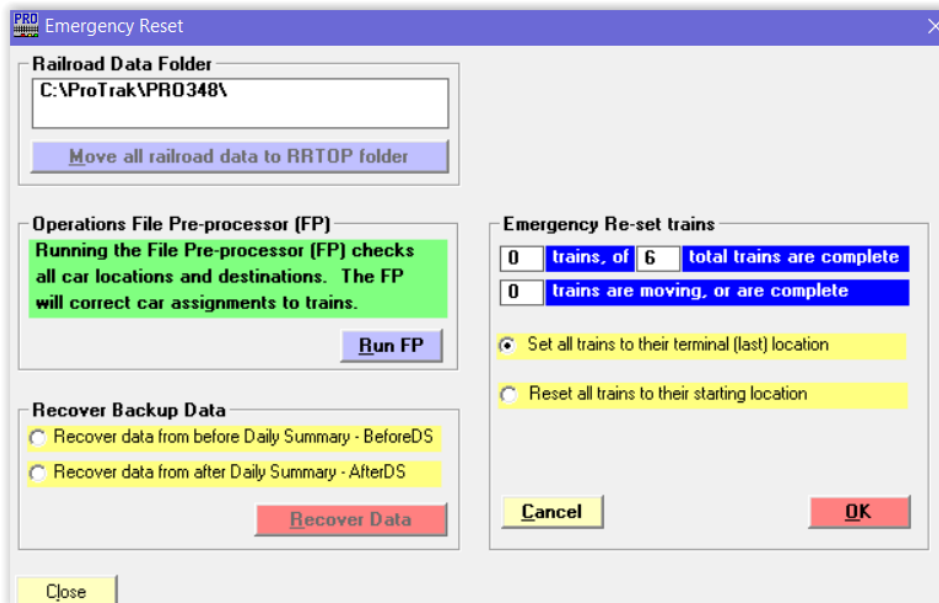

Figure 13-23a
Add the following sentence, steps 2a to 2d and Figure 13-23a to the existing step 2
- b. On the ProTrak Standard toolbar, click on "Help" then select "Emergency reset" from the dropdown list to open the "Emergency Reset" window shown in Figure 13-23a.